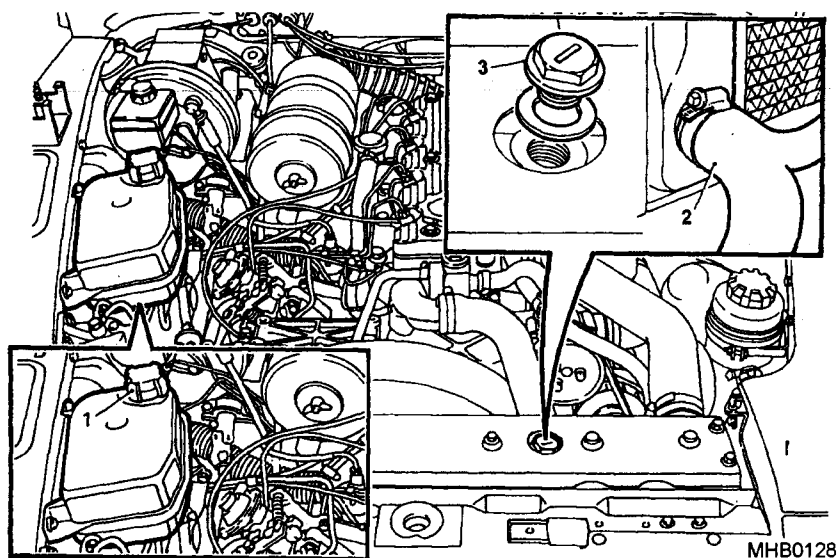

Fig 47 Radiator and expansion tank
52.1 Remove the expansion tank (Fig 47 (1)) and radiator filler caps (3).